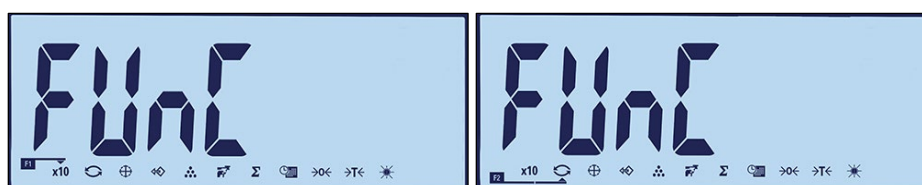

Figure 2-5: Function Keys Assignment Interface
To access the function key assignment interface, press and hold the  or  key when in basic weighing mode. The normal weight display will change to show an array of function icons, as seen in Figure 2-5. The currently selected function is indicated by a small arrow and a line linking it to the F1 or F2 symbol. Use the LEFT and RIGHT direction keys ( and ) to position the arrow next to the desired function. Figure 2-5 shows the X10 function assigned to F1 (left) and the Switch Units function assigned to F2 (right).
Enter setup (refer to Chapter 3, Configuration) and access the interface shown in Figure 2-5 at F2 – Application > F2.1 – Operation > F2.1.1 – Function key 1 and F2.1.2 Function key 2. Once the interface screen is displayed, the procedure is as described above under Assignment.